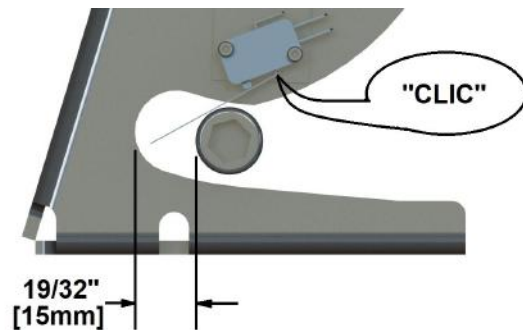

Fig. 29 - Limit switch positioning detail.
2. Loosen the 4 mounting screws (1) of the limit switch (3) and (4).
3. Install limit switch on the new ends stop unit (if the new solution configuration needs an ends stop unit model replacement) taking care to secured them in a way that the limit switch is engaged when the cam (2) is located at 19/32" [15 mm] from the ends of the ends stop unit (⇒ Fig. 29, page 29).